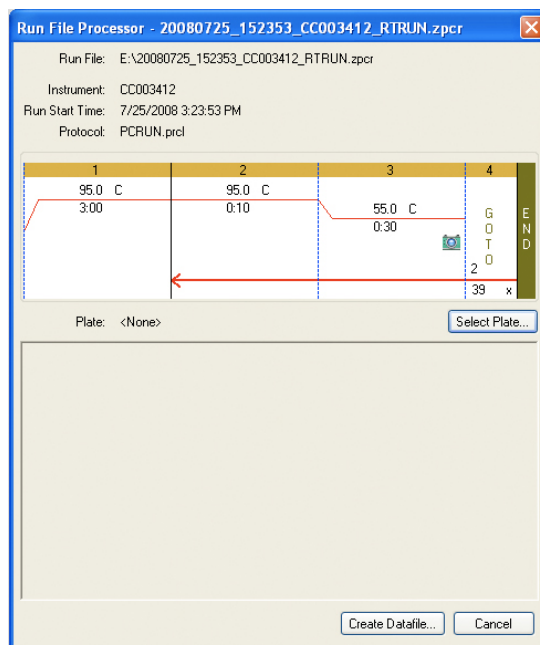

Figure 44. Assigning a plate file.
2. In the **Run File Processor** window click the **Select Plate** button to import the name of the plate file the software will use to create the data file (Figure 44).